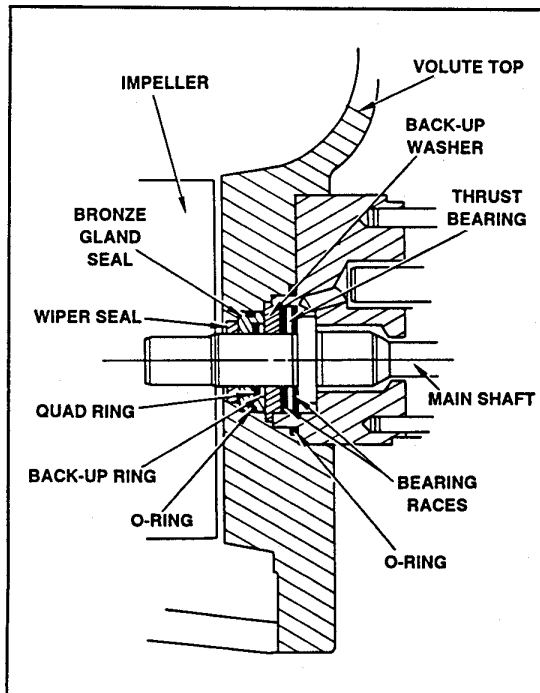

Figure 3. Bronze Gland Seal and associated parts. For serial number 1547 and up.
5. If oil leakage around the mainshaft is evident, the bronze gland seal and associated parts must be replaced. These parts are shown in Figure 3
1. If there has been leakage around the mainshaft or if shaft damage is evident, install a new wiper seal, bronze gland seal, gland seal o-ring, quad ring and backup ring in the volute top as shown in Figure 3 before installing the motor. Lubricate the bronze gland seal, wiper seal and quad ring with waterproof grease before installation. Lubricate all other parts with clean hydraulic fluid.